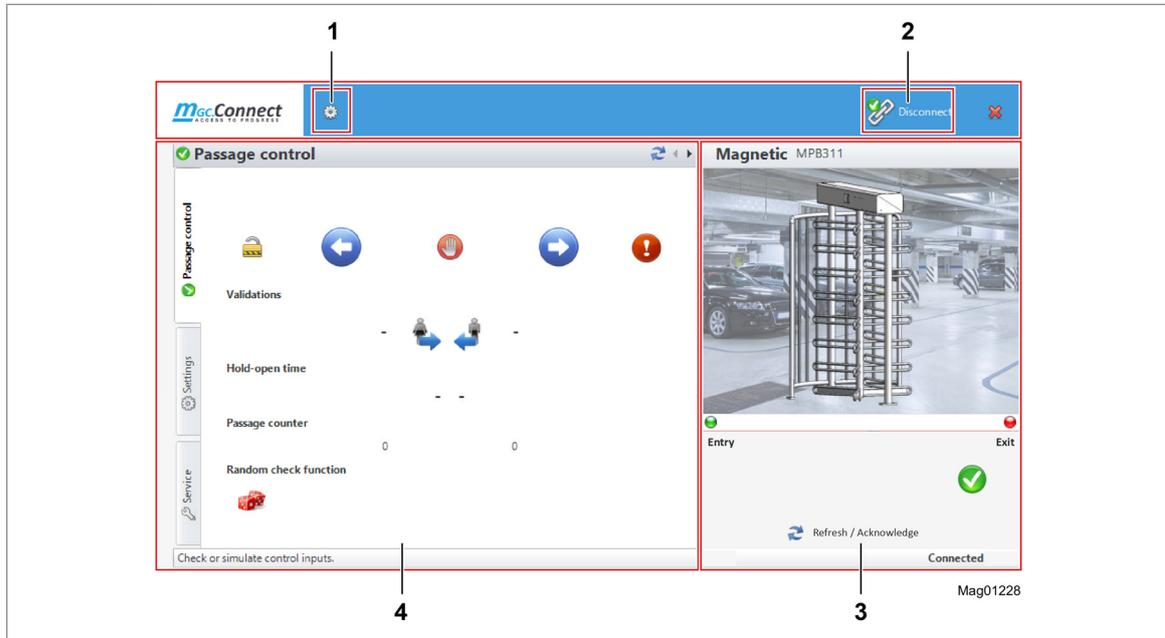

Fig. 4: Exemplary view "MGC.Connect"
1. Open the "Configuration" window. To do so, click the "⚙️" button in the header of the MGC.Connect programme. ↗ Page 23, chapter Fig. 4, pos. 1.
You can change the menu language via the "Language" option in the "Configuration" window. Open the "Configuration" window with the "⚙️" button in the header of the MGC.Connect programme. ↗ Page 23, Fig. 4, pos. 1.